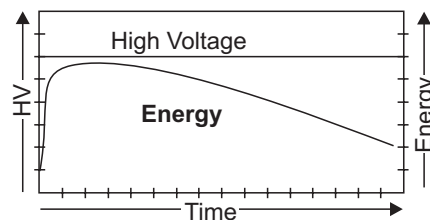

Figure 10: Energy decrease in the HV Constant mode
- If the High Voltage Constant mode is selected, the pulse energy decreases with time as excimer laser gases have a limited lifetime (see Figure 10).